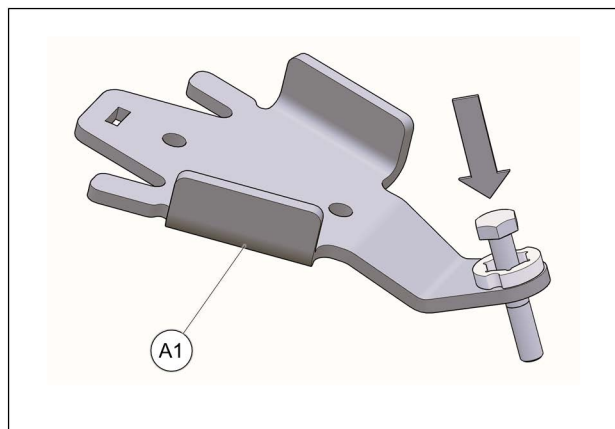

Fig. 17
4. Insert bolt in front anchor brackets (**A1**) as shown in Fig. 17